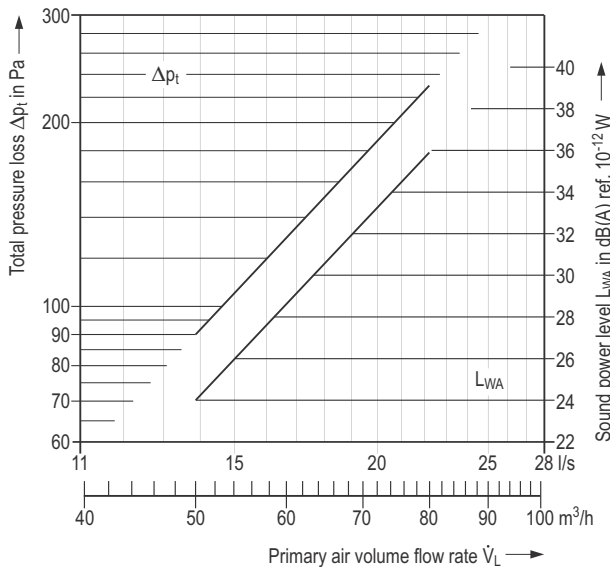

Figure 12: Sound power level and air-side pressure loss
The sound power level and the air-side pressure loss are low and depend only on the primary air volume flow rate. According to **Figure 12**, the A-rated sound power level amounts for 13.9 l/s (50 m3/h) primary air volume flow rate to 24 dB(A) ref. 10-12 W, for 22 l/s (80 m3/h), to 36 dB(A) ref. 10-12 W. The corresponding total pressure equals 90 and 230 Pa resp.
Details: 1) Figure 12                      5) Other colours on request